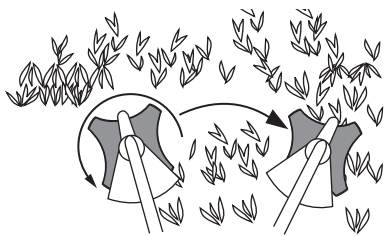

Fig. 27
- Swing the unit into material to be cut from your left to your right (Fig. 27).